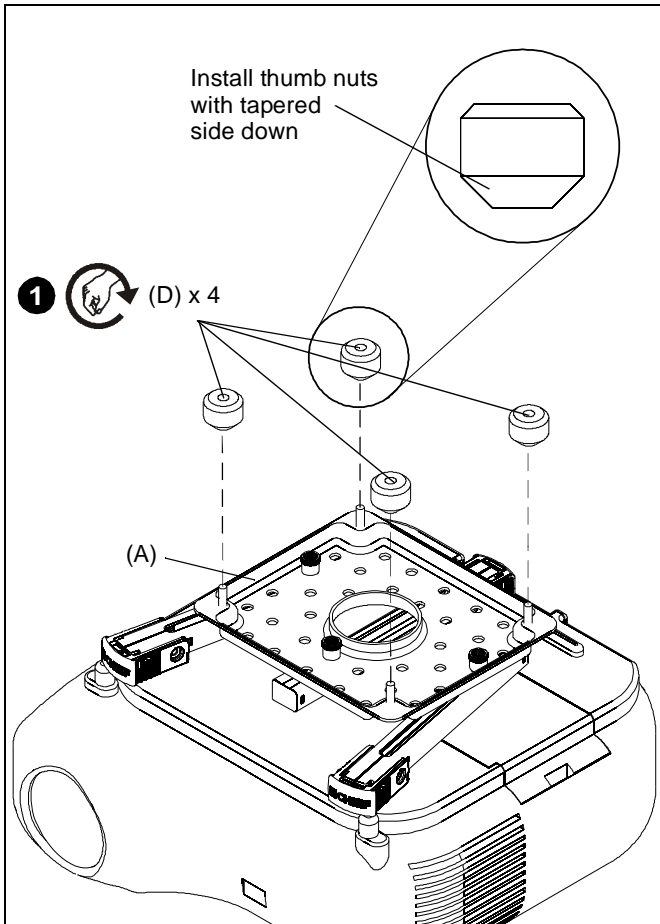

Figure 8
1. On SLBU, partially install four thumb nuts (D) to SLBU main plate screws. Be sure to install thumb nuts with tapered side down. (See Figure 8)